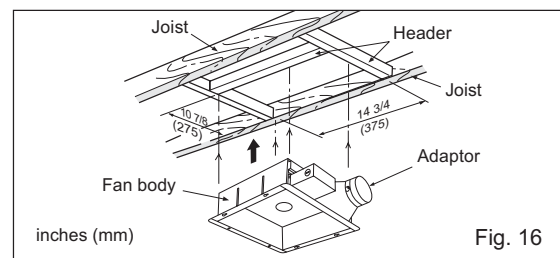
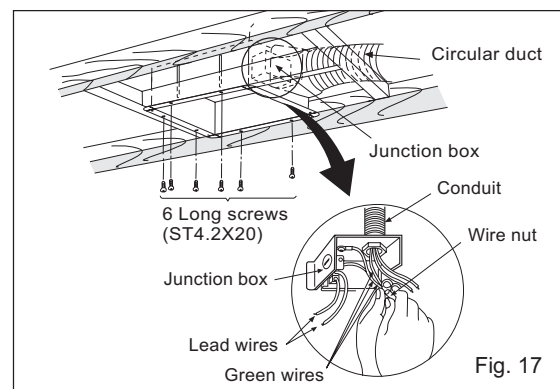

Fig. 16
Fig. 17
3. Install the fan body and secure it by using long screws (ST4.2X20). (Fig. 16, Fig. 17)